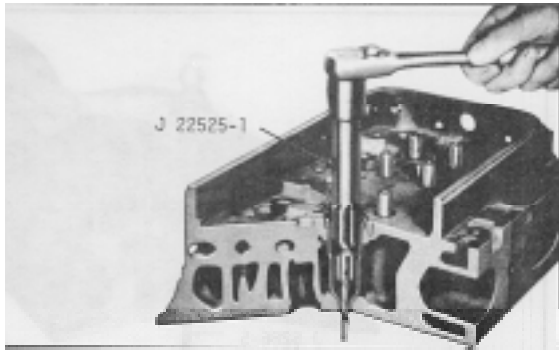

Fig. 4 Reaming Injector Tube for Injector Body Nut and Spray Tip
After an injector tube has been installed in a cylinder head, it must be finished in three operations: first, hand reamed, as shown in Fig. 4, to receive the injector body nut and spray tip; second, spot-faced to remove excess stock at the lower end of the injector tube; and third, hand reamed, as shown in Fig. 5, to provide a good seating surface for the bevel or the lower end of the injector nut. Reaming must be done carefully and without undue force or speed so as to avoid cutting through the thin wall of the injector tube.
- (1) Ream the injector tube for the injector nut and spray tip. With the cylinder head right side up and the injector tube free from dirt, proceed with the first reaming operation as follows:
- (b) Turn the reamer in a clockwise direction (withdrawing the reamer frequently for removal of chips) until the lower shoulder of the reamer contacts the injector tube (Fig. 4). Clean out all chips.
- (2) Remove excess stock:
- (3) Ream the bevel seat on the injector tube.